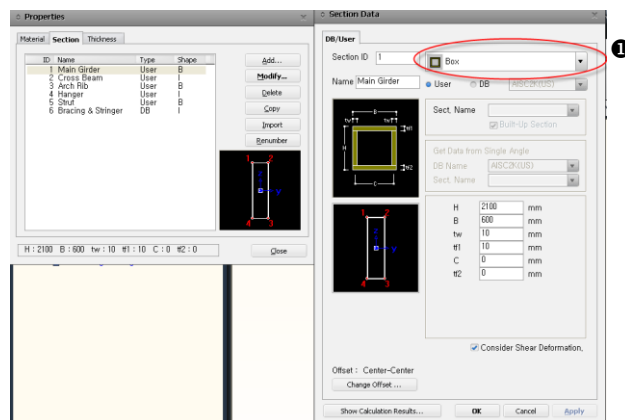

Figure 4.6 Section Properties and Section Data Dialog Box
3. Confirm "1" in the **Section ID** field of the **DB/User** tab (Figure 4.6).
5. Select "**Box**" in the **Section Shape** selection field (Figure 4.6).¹
15. Select "**I-Section**" in the **Section Shape** selection field (Figure 4.6).¹